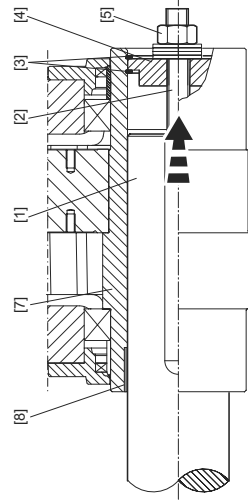
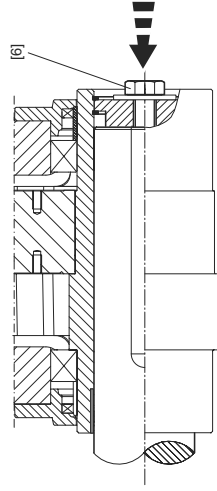
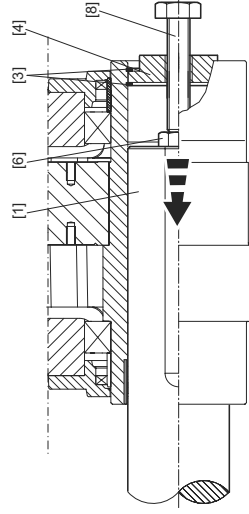

Figure 23: Mounting of hollow shaft gear unit with keyed connection
Figure 24: Mounted hollow shaft gear unit with keyed connection
Figure 25: Removing hollow shaft gear unit with keyed connection
- Included in the scope of delivery (→ Figure 23):
- **Not** included in the scope of delivery (→ Figure 23 / Figure 24 / Figure 25):
- Remove the retaining screw [6] (Figure 24, Pos. 6).